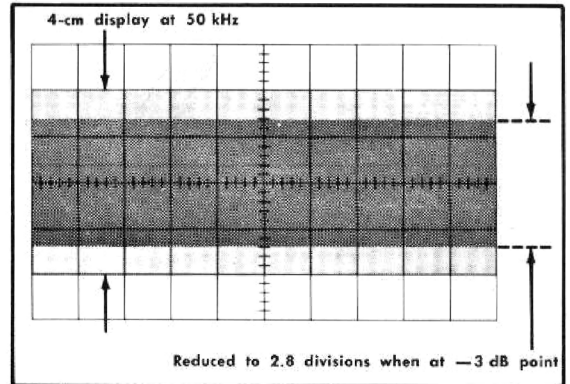

Fig. 5-6. Double exposure to show CRT display when checking the frequency response.
- Increase the frequency of the Constant Amplitude Signal Generator until the display amplitude has decreased to 2.8 cm. See Fig. 5-6.